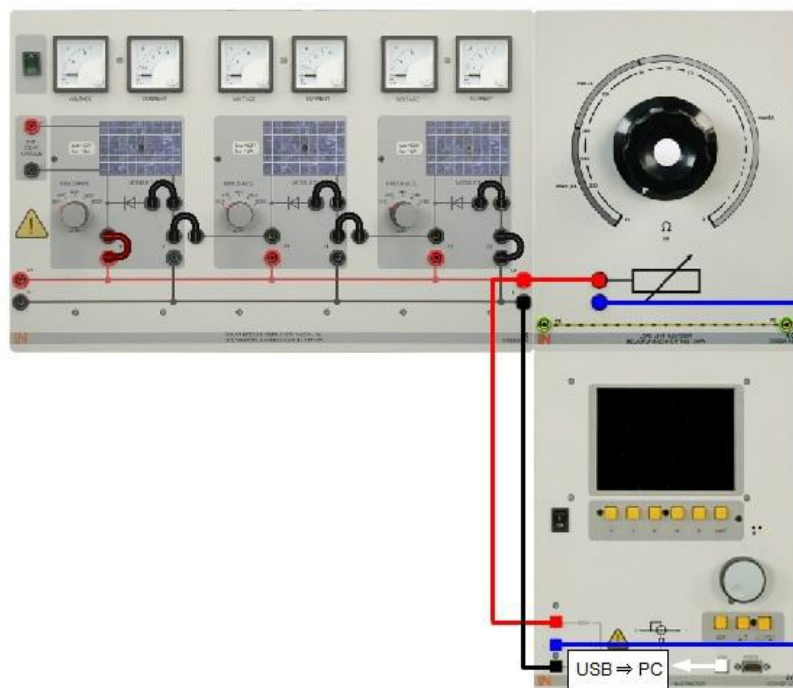

Fig. 3.6.2
6. Connect the solar modules' bypass diodes. Set the modules to an irradiance of 1000W/m^2 . The experimental configuration is shown in Fig 3.6.2